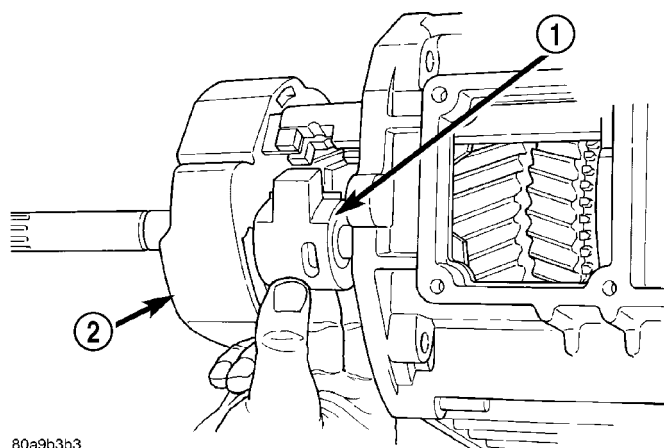

Fig. 22 SHIFT SHAFT LEVER AND BUSHING
(8) Remove lever and bushing (Fig. 22).